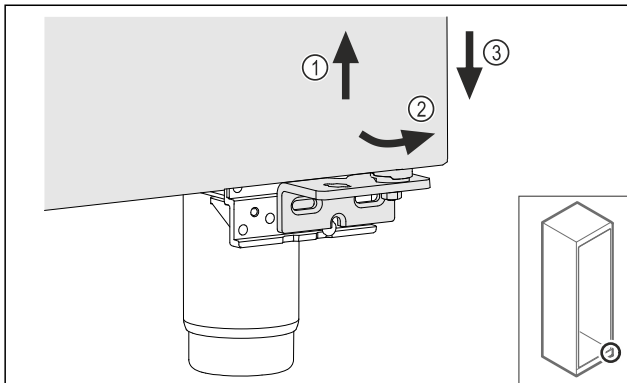

Fig. 27
- ▶ Lift the door slightly Fig. 27 (1), tip it forward Fig. 27 (2) and lower it Fig. 27 (3).